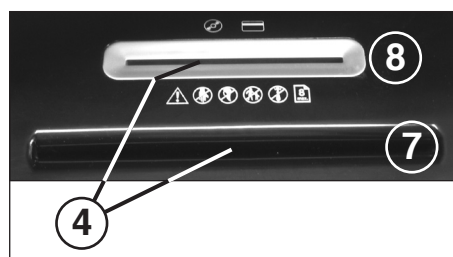

fig. 2
- 4 = **Light barrier (forwards running) (fig. 2)**
- 7 = **Paper feed slot (fig. 2)**
- 8 = **Safety feed slot (fig. 2)**
Feed **paper** into the cutting mechanism through the paper feed slot (7) (Fig. 2). Feed **data carriers** (CD, DVD or credit card) into the cutting mechanism individually into the separate safety feed slot (8) (Fig. 2). The machine automatically switches to forwards running, draws the material in and automatically switches off after shredding.